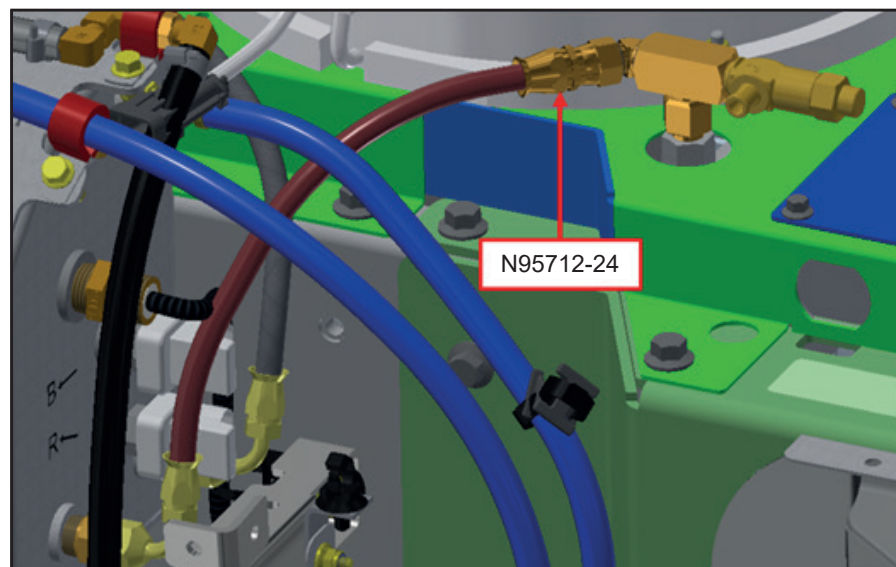

Figure 5 - Installation of Vent Hose
1.9. Re-install removed hose between radiator and surge tank. If a new hose is required, see level 2 BOM (N95712-24) (see figure 5).